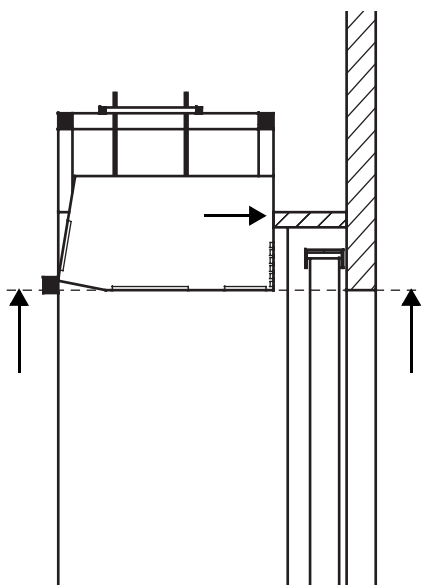

Figure 3-5 Correct horizontal and vertical placement of air curtain unit
1. Adjust the vertical position of the unit with the nuts ⑥, according to Figure 3-5.
- Place the unit into exact position, according to Figures 3-5 and 3-6, by moving it by its suspension frame over the horizontal bars of the corridor frame.